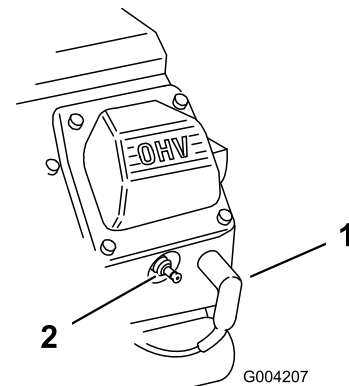

Figure 24
- Pull the wires off of the spark plugs (Figure 24).
3. Push the wires onto the spark plugs (Figure 24).